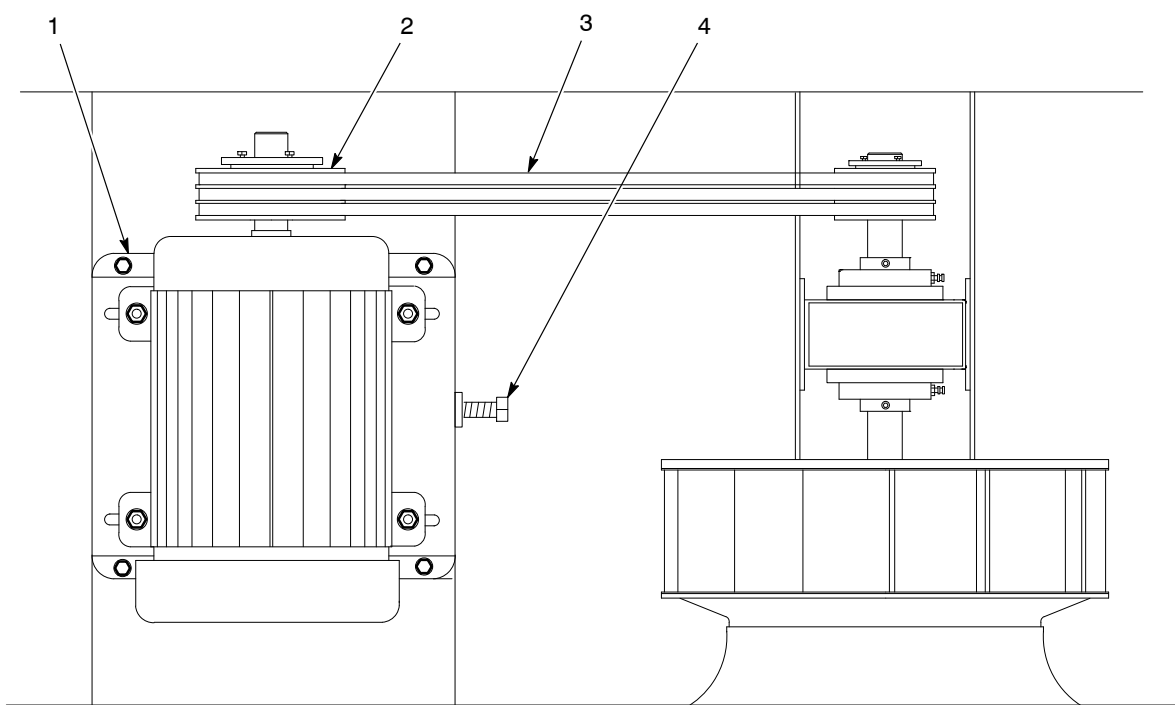

Figure 6-6 V-Belt Replacement
2. See Figure 6-6. Unscrew the tension bolt (4) on the side of the motor mount (1). This will allow you to slide the motor toward the fan and loosen the V-belts (3).
3. Rotate the motor or fan by hand and roll the V-belts off the sheaves (2).